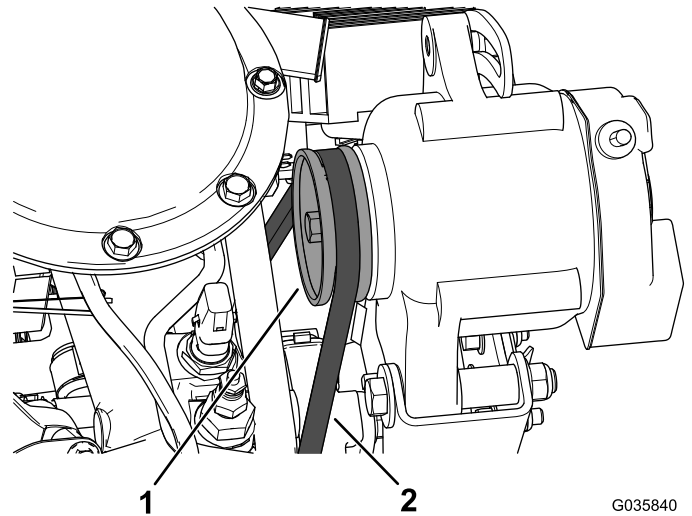

Figure 14
6. Slide the alternator belt over the pulley on the alternator (Figure 14).